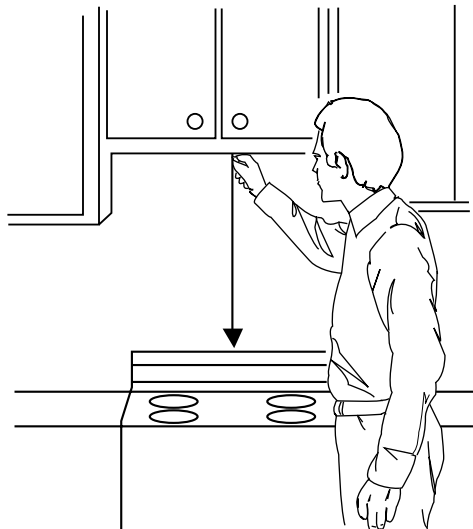

Figure 21
1. Using a plumb line and (metal) measuring tape, find and mark the vertical center line on the back wall, as in Figure 21.